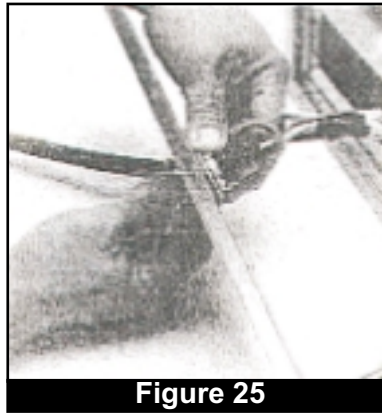

Figure 25
5. Remove elbow connector that secures power cord onto the back panel. While grasping the nut (on the inside surface of the panel) and holding the connector (on the outside surface of the panel), rotate the nut to loosen and remove the elbow from the panel. (Fig. 25).